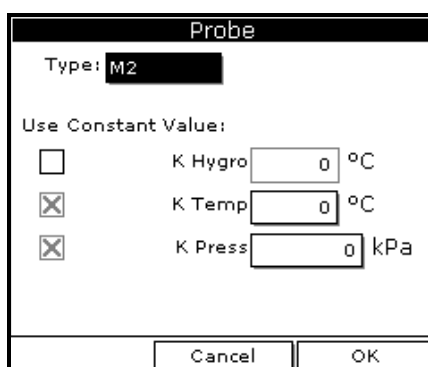

Figure 3: Probe Window
- Use the arrow key to scroll to Probe and press [ENTER]. The screen appears similar to Figure 3.